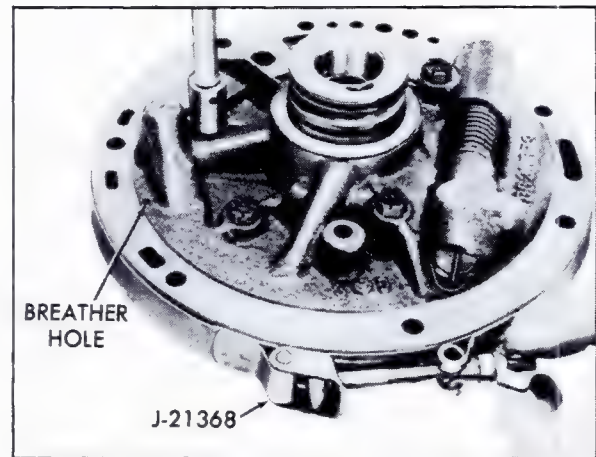

Fig. 7-76 Aligning Pump Cover with Pump Body
13. Install pump Body and Cover Alignment Band, J-21368, around pump assembly. Tighten wing nut on alignment band to align pump cover with pump body, Fig. 7-76.